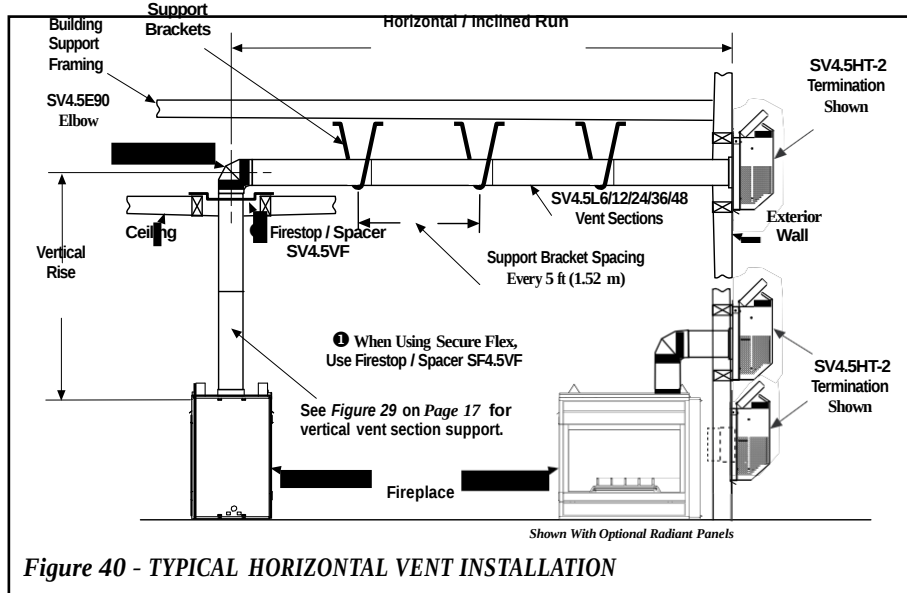

Figure 40 - TYPICAL HORIZONTAL VENT INSTALLATION
Figures 40, and Figures 43 to 48 on pages 25 to 27 and their associated Horizontal Vent Table illustrate the various horizontal venting configurations that are possible for use with these appliances. **Secure Vent®** pipe applications are shown in these figures; **Secure Flex®** pipe may also be used. A Horizontal Vent Table summarizes each system's minimum and maximum vertical and horizontal length values that can be used to design and install the vent components in a variety of applications.
I. Continue installation of horizontal/inclined sections - Continue with the installation of the straight vent sections in horizontal/inclined run as described in **Step E**. Install support straps every 5 ft. (1.52 m) along horizontal/inclined vent runs using conventional plumber's tape. See *Figure 40*, it is very important that the